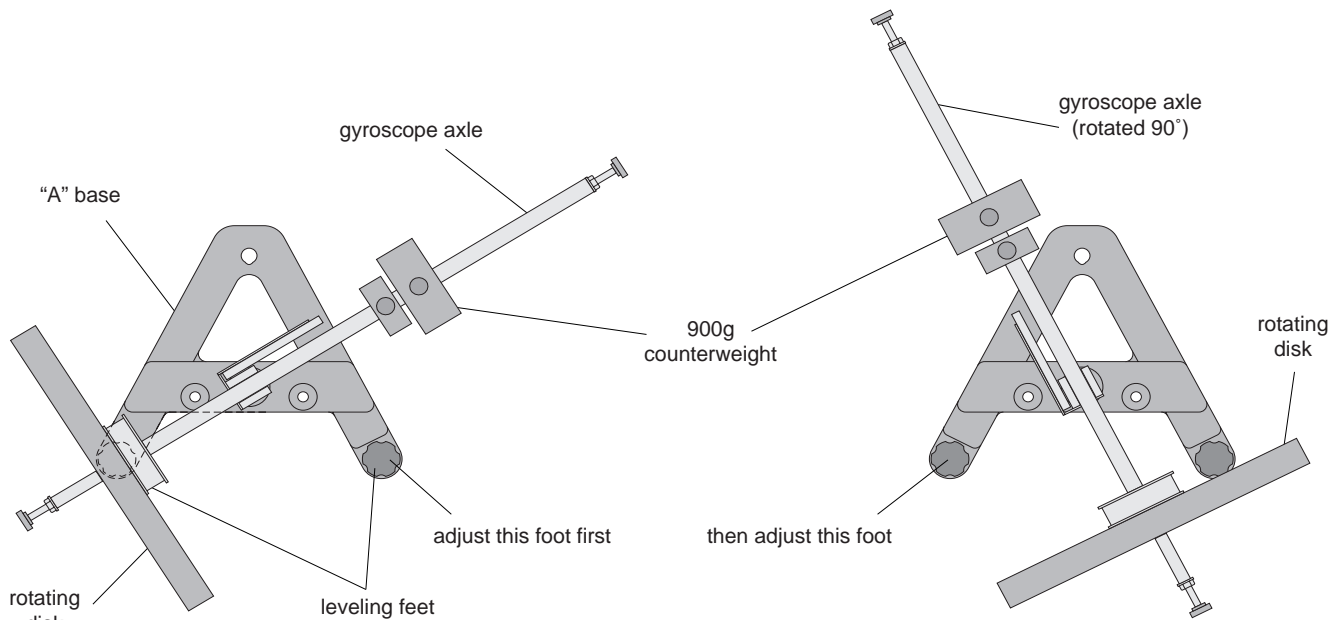

Figure 2: Leveling the Base
- ① Purposely make the apparatus unbalanced by moving the 900g counterweight towards the center.
- ② Adjust the leveling foot on one of the legs of the base until the gyroscope disk is aligned over the leveling foot on the other leg of the base. See Figure 2.
- ③ Rotate the gyroscope 90 degrees so the gyroscope axle is parallel to one side of the “A” and adjust the other leveling foot until the shaft will stay in this position. See Figure 2.
- ④ Adjust the position of the 900g counterweight until the gyroscope is balanced without the add-on mass. The 30g counterweight can be used to fine tune the balance.